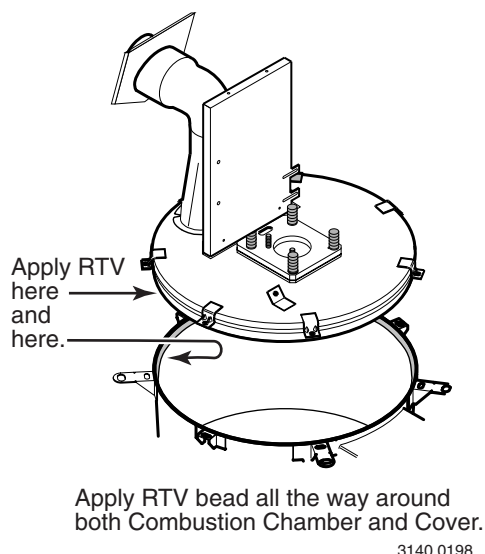

Figure 8: RTV Application For Reassembly
32. Apply fresh High Temperature RTV (600°F Continuous, 700° F. Intermittent rating) all the way around the inside top of the Combustion Chamber and the outside of the Combustion Chamber cover (see Figure 8).